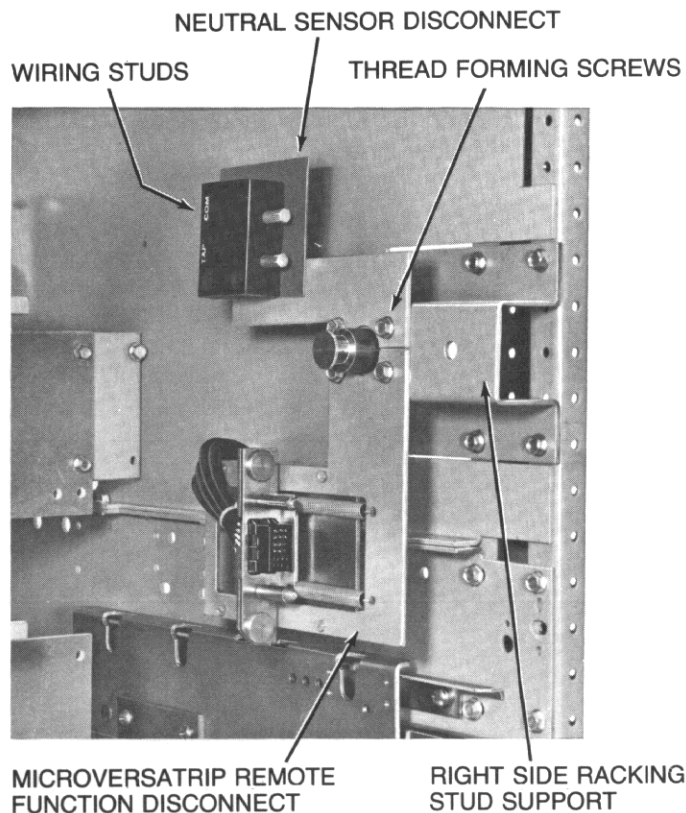

Figure 6
Kit contains the disconnect sub-assembly, (2) $\frac{1}{4}$ -20 \times $\frac{1}{2}$ " long thread forming screws, wire ties, and a grommet for one of the $1\frac{1}{4}$ " dia. wiring access holes. Attach to the right side racking stud support as shown in Figure 6.
Attach to the right side racking stud support as shown in Figure 6. Unit studs are made for attachment of the customers wiring using crimp type terminals for #6 screws. Anchor the wires, with sufficient loop, to the wire tie anchor at the top of the block. Wire can also be anchored to the barrier using the hole at top rear.